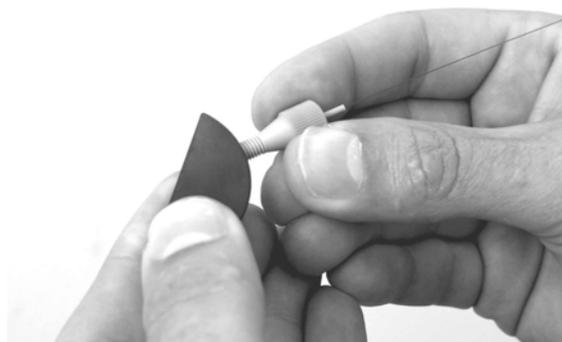

FIGURE D-2 Attaching a PEEK Sleeve Connector to a NANO Column
- e) Carefully turn the nut 1/4 turn (90°) past the point where the ferrule starts to grab the sleeve (FIGURE D-2).